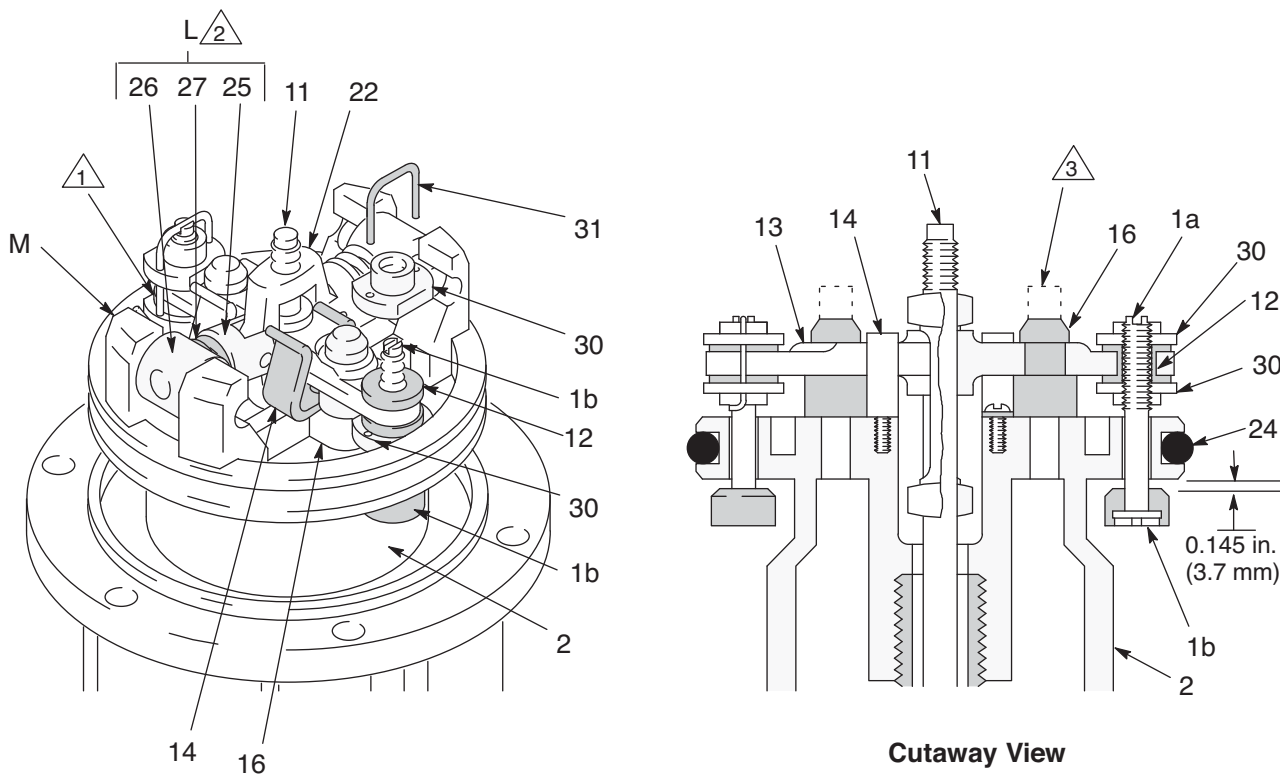

FIG. 5
9. Use a screw driver to push down on the trip rod yoke (22), and snap the toggles down. Remove the lockwires (31) from the adjusting nut (30) of the transfer valves. Screw the top nuts off. Screw the stems (1a) out of the grommets (12) and bottom nuts. Take the valve poppets (1b) off the stems and squeeze them firmly to check for cracks. (FIG. 5)
10. Grip the toggle rockers (26) with a pliers. Compress the springs (27), and swing the toggle assembly (L) up and away from the piston lugs (M), and remove the parts. Check to see that the valve actuator (13) is supported by the spring clips (14), but slides easily into them. (FIG. 5)
11. Remove the trip rod yoke (22), actuator (13), and trip rod (11). Check the exhaust valve poppets (16) for cracks.
- NOTE:** To remove cracked exhaust valve poppets (16), stretch them out, and cut them with a sharp knife.
12. Remove one of the air motor plates (18 or 20). Pull the piston (2) up out of the base (5). Remove the throat packing nut (38) and throat seal (6).
6. Pull the exhaust valve poppets (16) into the valve actuator (13), and clip off the top part shown with dotted lines in FIG. 5.
7. Install the transfer valve grommets (12), and reassemble the valve mechanism. Before you install the lockwires (31) in the adjusting nuts (30), use the special gauges, 171818, to adjust the transfer valve so there is 0.145 inches (3.7 mm) clearance between the poppets (1b) and the seat when it is open. Snap the toggles (25) to the up position. (FIG. 5)
8. Reassemble the air motor, and assemble to the displacement pump. Torque the extensions tube (64) to the base (5) at 45 to 55 ft-lbs (61 to 75 N.m). Before you install the air motor plate, tighten the throat packing nut (38) snugly; do not overtighten it.